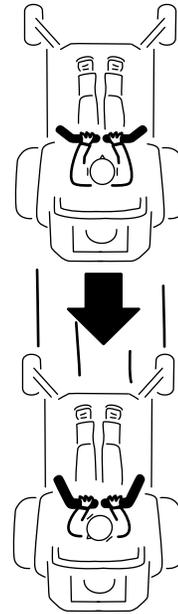

**Figure 20**
2. To go forward, slowly push the motion-control levers forward (Figure 20).